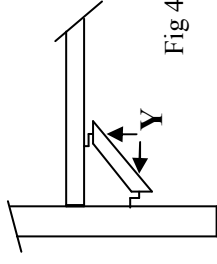

Fig 4
- 7 Now fix the struts between the bottom of the seat and the post at the front of the seat as Fig 4.